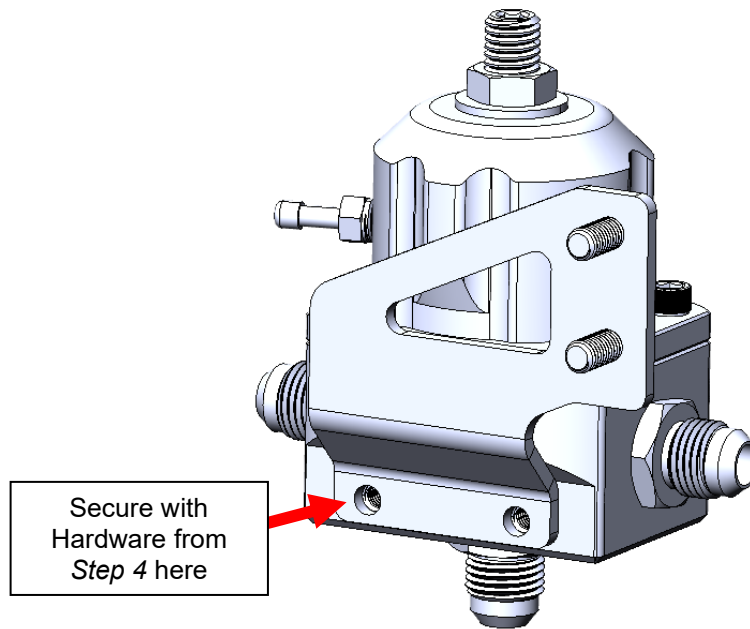

Figure 42
5. Attach the larger piece of the other provided bracket onto the rear of the Regulator with the bolts removed in the previous step. The orientation the bracket should be bolted on in is shown below. *Figure 42.*